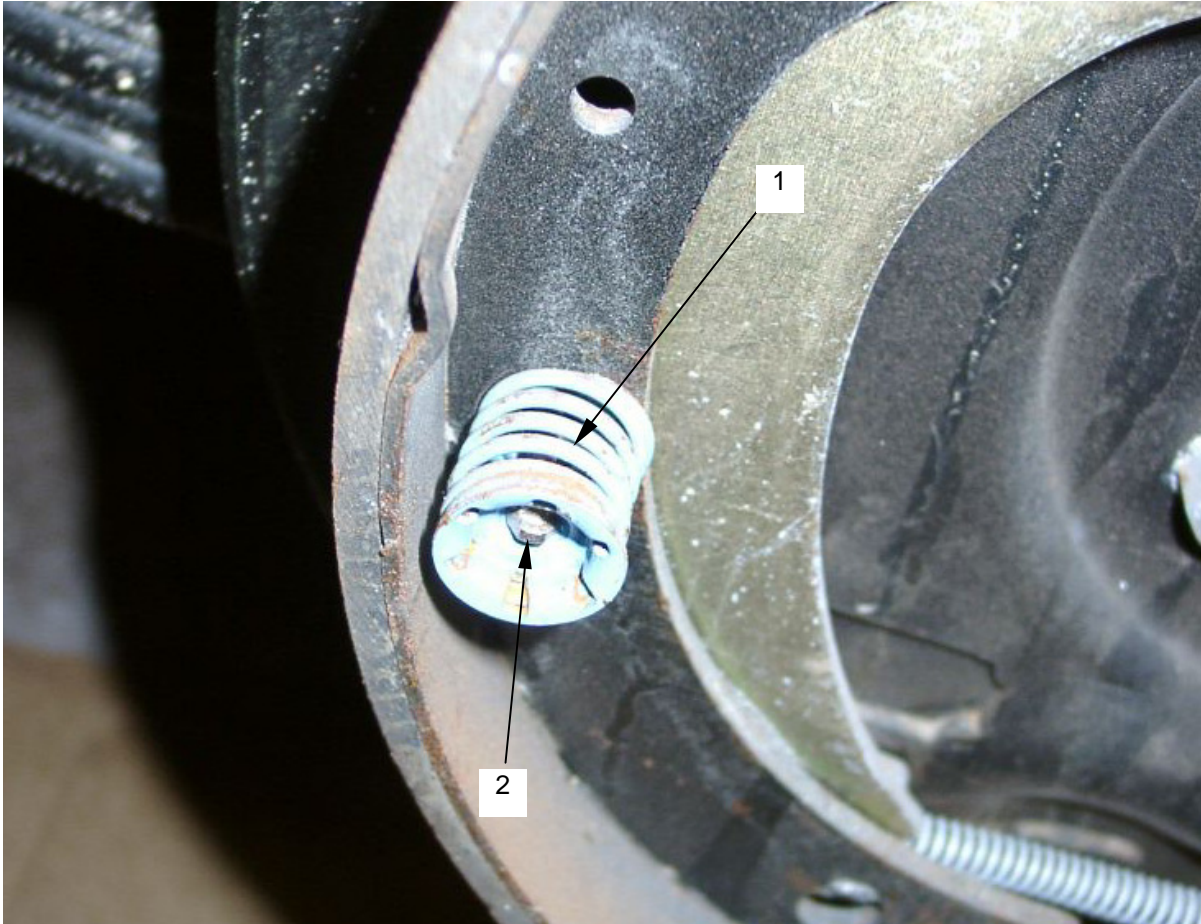

Figure 30. Hold Down Spring And Pin
- t. Push, turn and release the hold down springs (**figure 30, item 1**).
- u. Pull retaining pins (**figure 30, item 2**) out through the back of the brake.